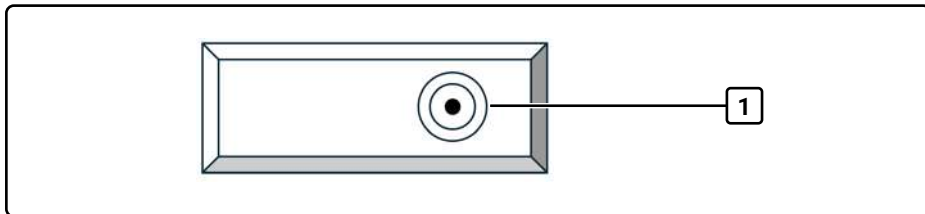

Fig. 7 Plan view of water tank
3. Insert the filter cartridge into the water filter adapter (1, Fig. 7) in the water tank so that it latches in place.